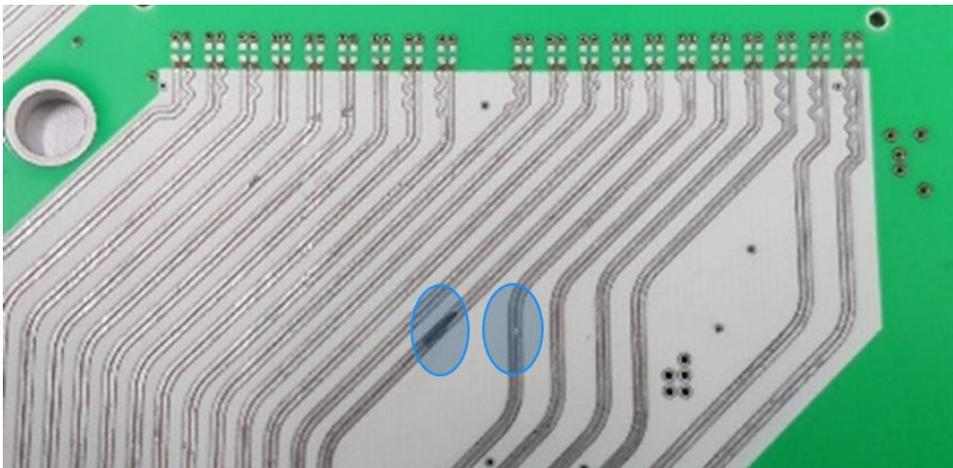

Figure 8: This enlarged photo of a 10 Gbps link shows two trouble spots on the PCB.
Step 3, Analyze: As a real-world example, let's look at a 10 Gbps link with skew-matched traces. In Figure 8, the highlights show two trouble spots on the PCB: an etching problem on the left and a discontinuity on the right. Visually, it appears that each is roughly the same distance from its associated PCB pad.